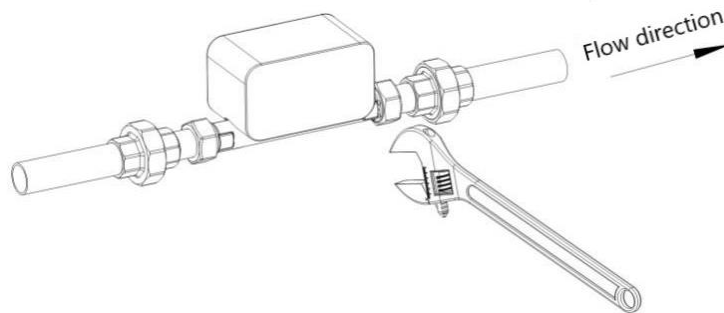

Figure 5-2-4 Meter Mounting Diagrammatic Sketch
- 3) Connect the instrument with the connecting accessories and install it, as shown in Figure 5-2-4.